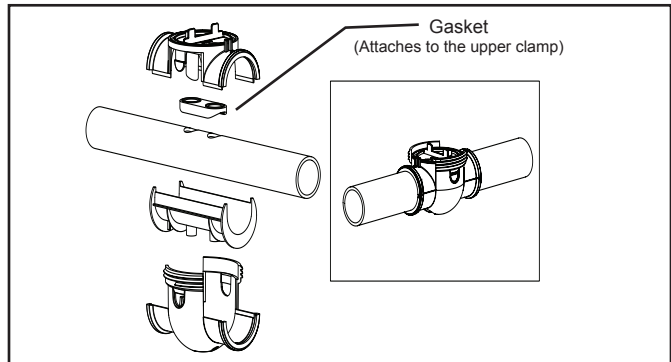

Figure 11. Attaching the Saddle Clamp
8. The replacement clamp assembly will be clamped together. To install the clamp, first separate the upper and lower clamps by pressing the two (2) push-buttons on either side of the upper clamp.
10. Secure the clamps, pipe spacer, and gasket around the pipe making sure the flow arrows on the clamp point in the direction of the water flow. Make sure the two (2) clips on the sides of the clamp are snapped into place (see Figure 11).